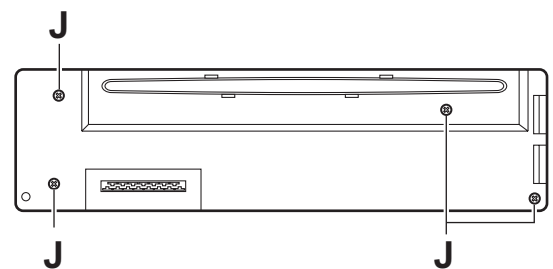

Fig.8
(See Figs.8 to 10)**
- Remove the four screws **J** on the back side of the front panel assembly. (See Fig.8.)